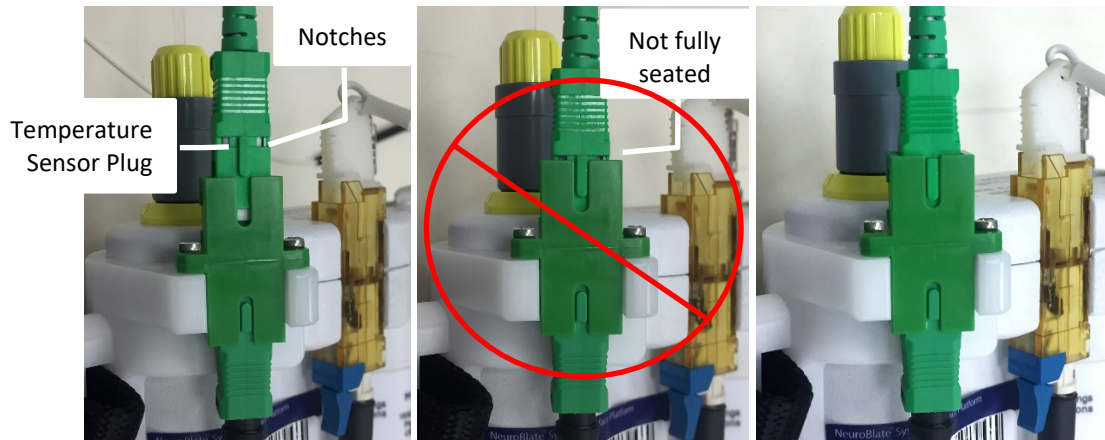

Figure 8.6.21: Temperature Sensor - Partial Connection (middle); Full Connection (right)
- Visually verify that the notches on the temperature sensor plug are no longer visible to ensure it is fully connected (Figure 8.6.21)